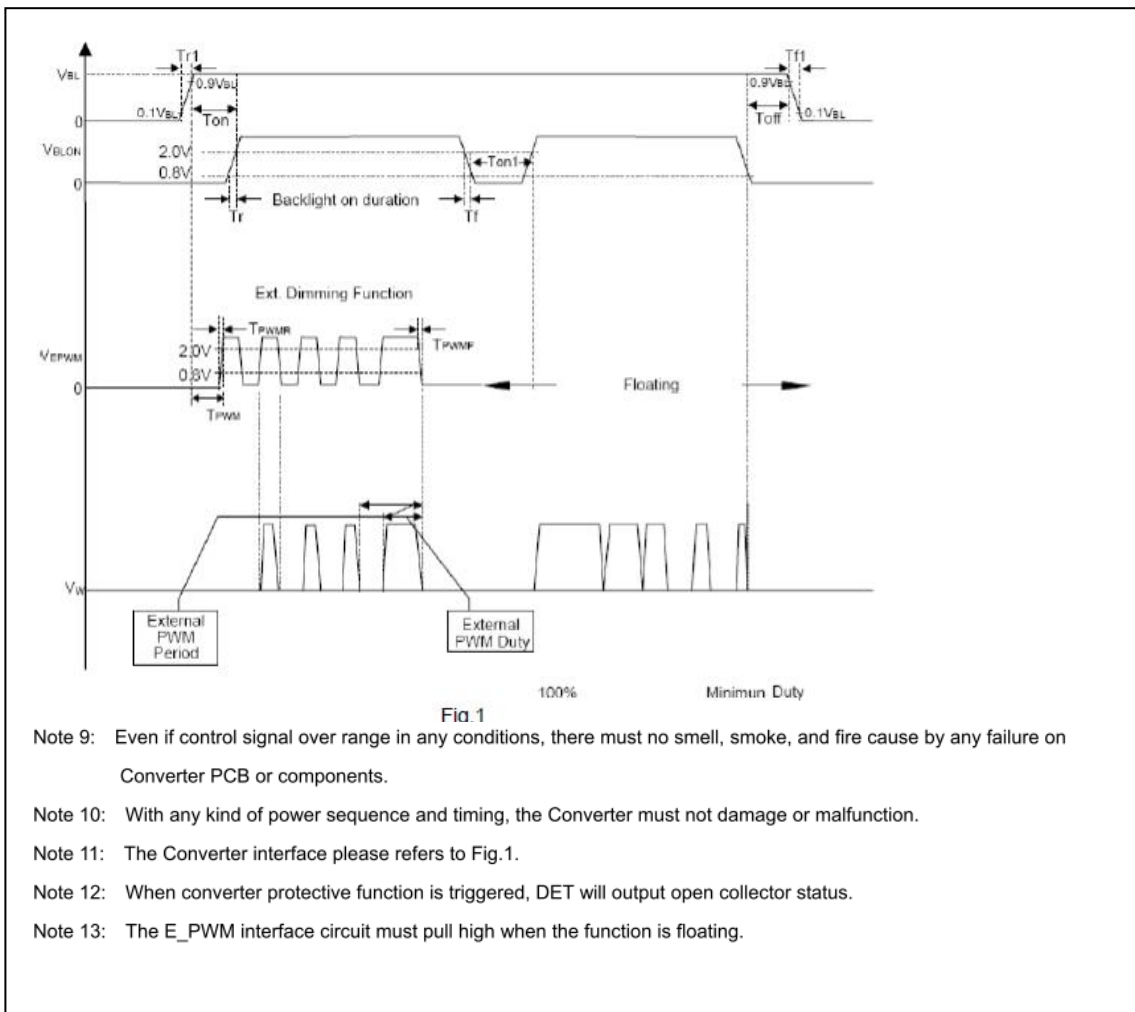

Fig. 1
- Note 11: The Converter interface please refers to Fig.1.